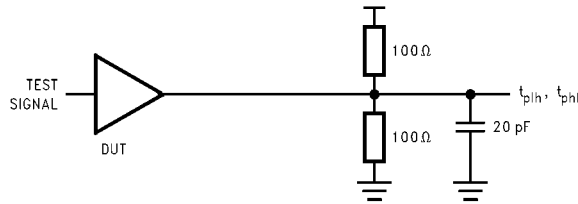

FIGURE 1. AC Test Circuit
**Note 5:** AC Specifications are measured into a 50 $\Omega$  Parallel terminated line. See Figure 1. Measurements are made with an input rise time of 1 ns/V.